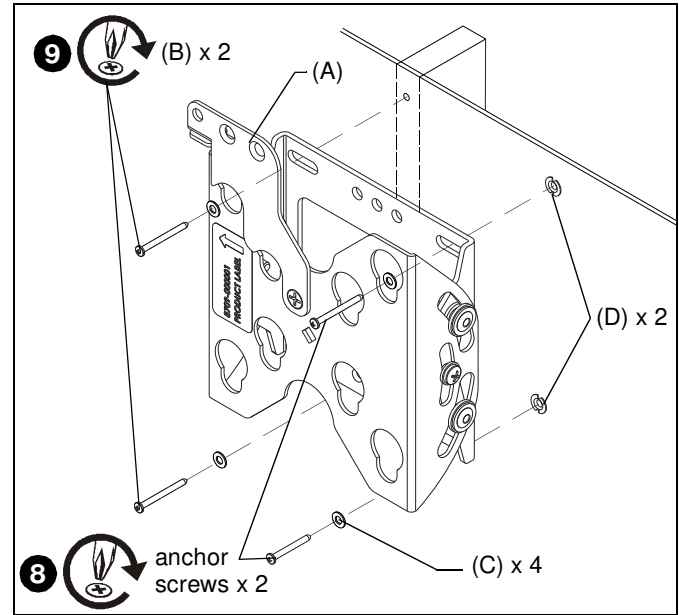

Figure 5
8. Insert anchor screws through two #10 washers (C), FTR1U/FTR100 assembly (A) and install into collapsed anchors (D). (See Figure 5)
9. Install two #10 x 2 1/2" Phillips tapping screws (B) through two #10 washers (C), FTR1U/FTR100 assembly (A) and into wood stud. (See Figure 5)